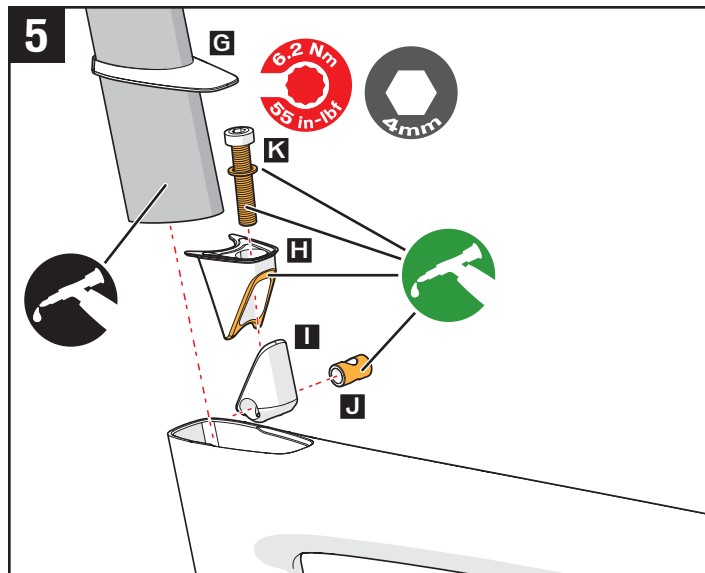

FIG. 5: Install the seatpost in the frame.
- Install the seatpost as described in the seatpost section (Fig. 5, page 13).
- Fig. 5: Once the saddle height is determined torque the seatpost wedge bolt to 55 in-lbf (6.2 Nm).